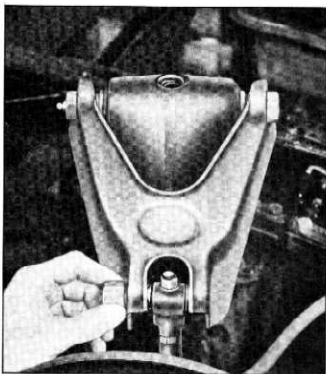

Fig. 23—Centering Knuckle Support
- Start front bushing onto pivot pin and then, keeping knuckle support centered (fig. 23) carefully index bushing threads into control arm.